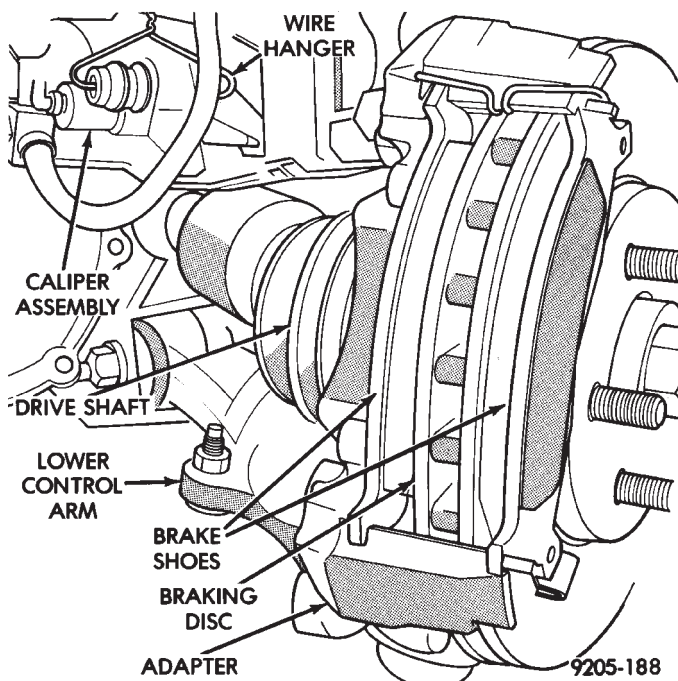

Fig. 4 Storing Caliper
- (6) Support caliper firmly to prevent weight of caliper from damaging the flexible brake hose (Fig. 4).